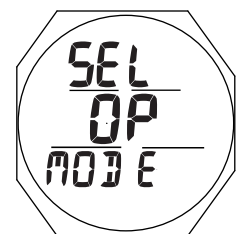

Fig. 55 - SET M LEAD-IN
**Select Operating Mode Lead-in**, information includes (Fig. 55):